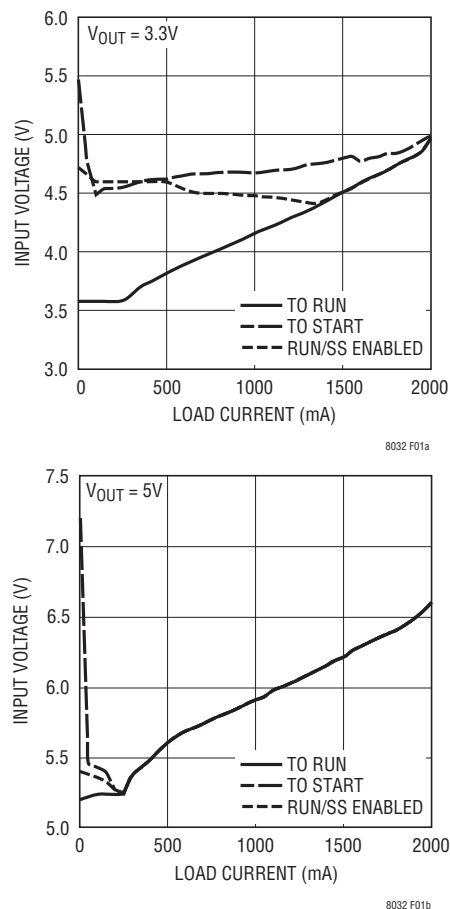

Figure 1. The LTM8032 Needs More Voltage to Start Than Run
The LTM8032 is a step-down converter, so a minimum amount of headroom is required to keep the output in regulation. In addition, the input voltage required to turn on is higher than that required to run, and depends upon whether the RUN/SS is used. As shown in Figure 1, it takes only about 3.6V $_{IN}$ for the LTM8032 to run a 3.3V output at light load. If RUN/SS is pulled up to V_{IN} , it takes
5.5V $_{IN}$ to start. If the LTM8032 is enabled via the RUN/SS pin, the minimum voltage to start at light loads is lower, about 4.5V. A similar curve for 5V $_{OUT}$ operation is also provided in Figure 1.